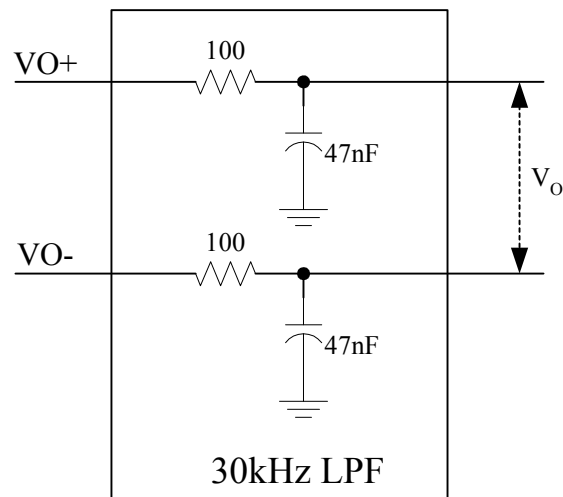

Figure 5. 30-kHz LPF for BL6312 test
The following specifications apply for the circuit shown in Figure 5.
- 4>. The 30 kHz LPF (shown in figure 5) is required even if the analyzer has an internal LPF